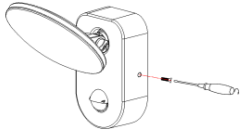

Figure1
- Screw off the nail on the bottom of sensor lamp and unload the bottom (refer to figure1).